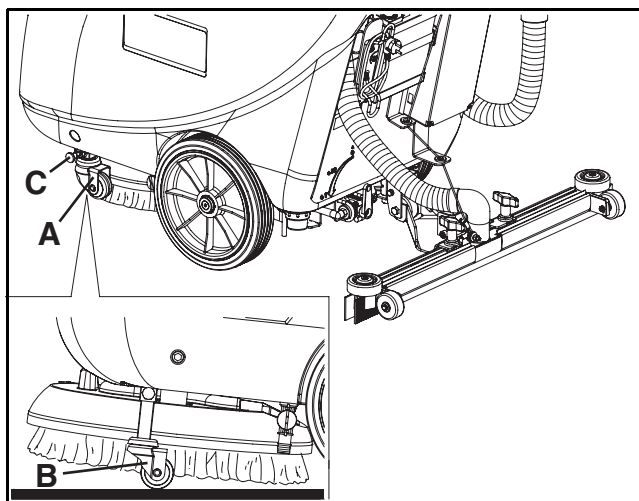

Figure 16
9. Lift the brush/pad by activating (B, Fig. 16) the transport/parking device (A) after inserting the relevant pin (C).